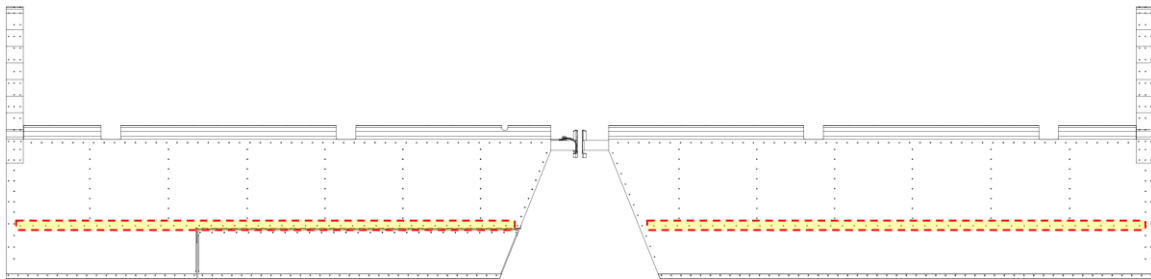

FIGURE 2: AN426AD3 RIVETS CONNECTING RV-14 ELEVATOR SKIN TO REAR SPAR.
Step 1: Identify the row of AN426AD3 rivets that connects the elevator skin to the E-1007/ E-00907 Rear Spar. They are highlighted in Figure 2: